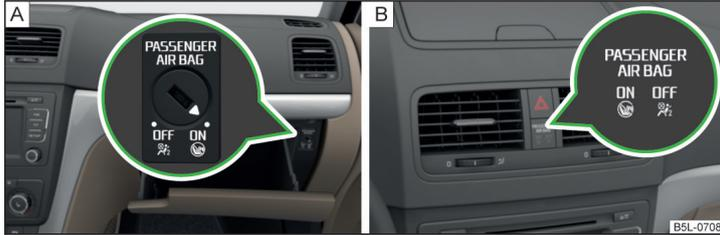

Fig. 15 Key-operated switch for the front passenger airbag / warning light for front passenger airbag
- ▶ The warning light **OFF**  » Fig. 15 on page 22 - B comes on after the ignition has been switched on. ▶
- Use the key to turn the slot of the key switch carefully into the position **OFF** » Fig. 15 - **A**.
- Check that the warning light **OFF** ⚠ under the text **PASSENGER AIR BAG** » Fig. 15 - **B** lights up after the ignition is switched on.
- Use the key to turn the slot of the key switch carefully into the position **ON** » Fig. 15 - **A**.
- Check that the warning light **ON** ⚠ under the text **PASSENGER AIR BAG** » Fig. 15 - **B** lights up after the ignition is switched on.